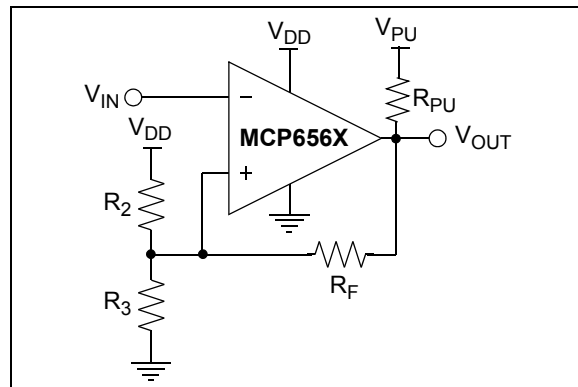
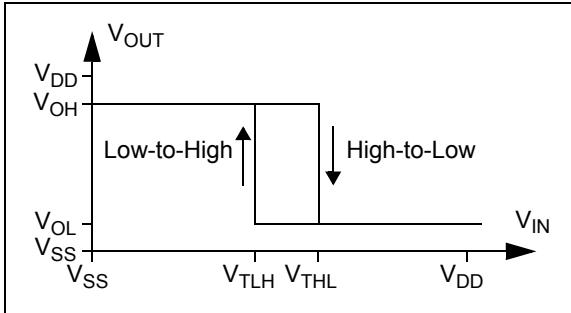
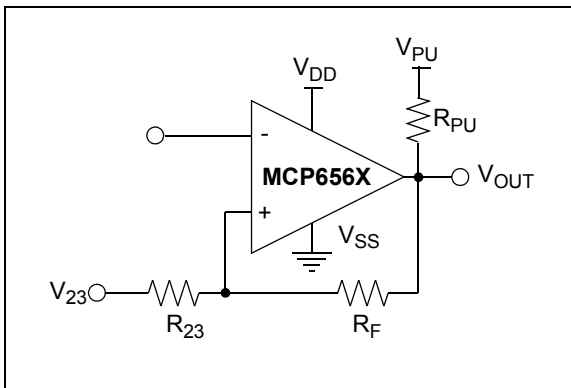

FIGURE 4-6: Inverting Circuit with Hysteresis.
FIGURE 4-7: Hysteresis Diagram for the Inverting Circuit.
FIGURE 4-8: Thevenin Equivalent Circuit.
Figure 4-6 shows an inverting circuit for single-supply using three resistors. The resulting hysteresis diagram is shown in Figure 4-7.
In order to determine the trip voltages ($V_{T_{HL}}$ and $V_{T_{LH}}$) for the circuit shown in Figure 4-6, R_2 and R_3 can be simplified to the Thevenin equivalent circuit with respect to V_{DD} , as shown in Figure 4-8.
1. Inverting Configuration (Figures 4-6 and 4-9):